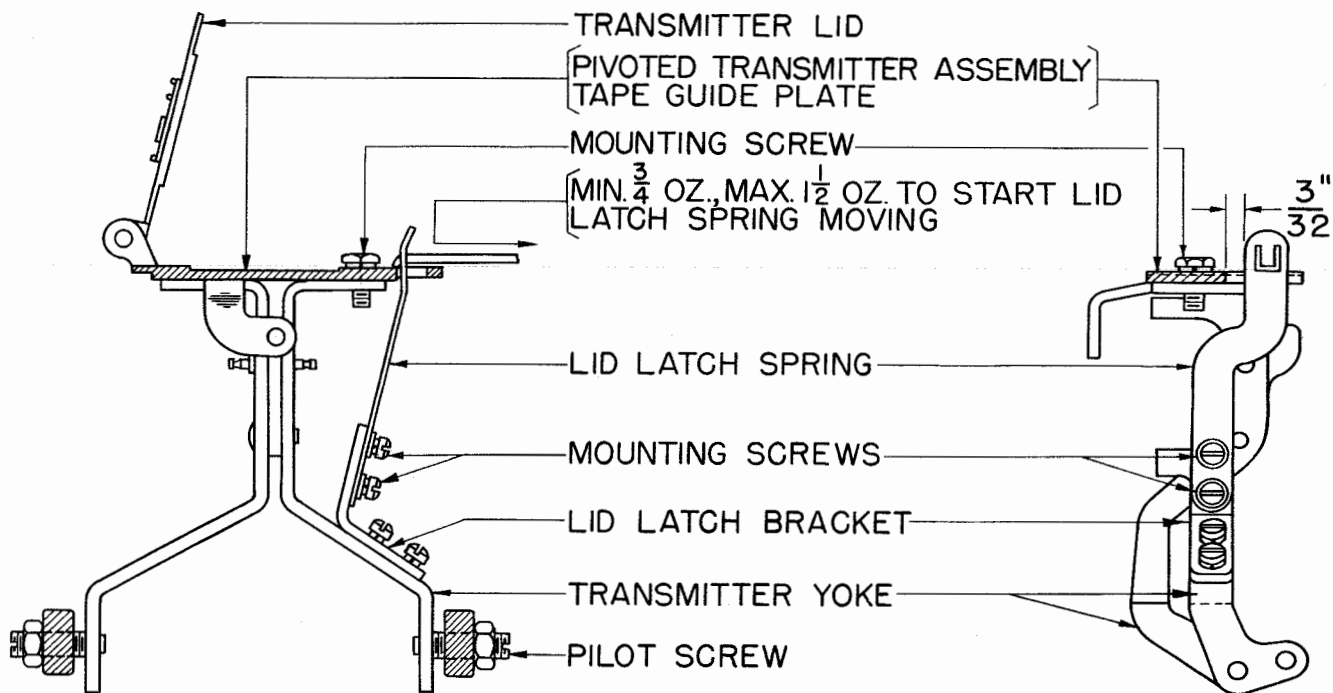

Figure 51
2.102 Pivoted-transmitter Pilot-screws: (See 2.101, Note.) With the sensing shaft in its stop position, the pins in the feed-pin oscillator shall be in line with the feed holes in the tape at the point where the tape emerges from the code-punch block. The pivoted transmitter shall have a minimum amount of endplay without bind. See Figure 51.
- (a) With the sensing-cam assembly in the stop position and the tape-feed holes engaged with the tape-feed pins, the tape shall not buckle against either the front or the rear edges of the tape-guide channel. See Figure 51.
of their code holes when the pivoted transmitter is: first, one space away from the die block, then in its midway position, and finally in the extreme left-hand position. Gauge by rotating the motor slowly by hand and observing the sensing pins when they are lifting up the flaps in the tape. Remove the 0.065-inch and 0.070-inch gauges. See Figure 51.
(See 2.101, Note.) With the transmitter lid up, it shall require a pull as indicated in Figure 51 to start the flat surface of the latch spring moving away from the tape-guide plate.
2.107 Pivoted-transmitter Lid-latch shall be latched by the latch spring with no appreciable play between the lid and the guide plate. (See 2.101, Note.) There shall be a clearance of approximately $3/32$ inch between the left edge of the latch spring and the edge of the slot in the tape-guide plate. See Figure 51